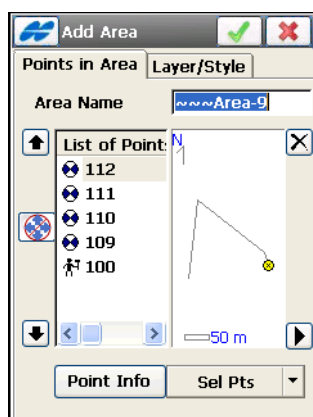

Figure 6-30. Edit Area
3. To edit the properties of an area, either double-tap or highlight the area in the list and tap **Edit**. The *Edit Area* screen displays (Figure 6-30).